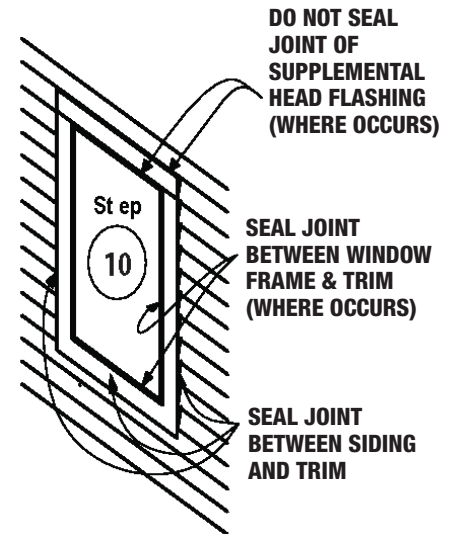

Figure 11 Install cladding.
Step 10. Install trim and/or exterior wall cladding around perimeter of window. Seal perimeter joints per the recommendations of the cladding and window manufacturers (see Figure 11).